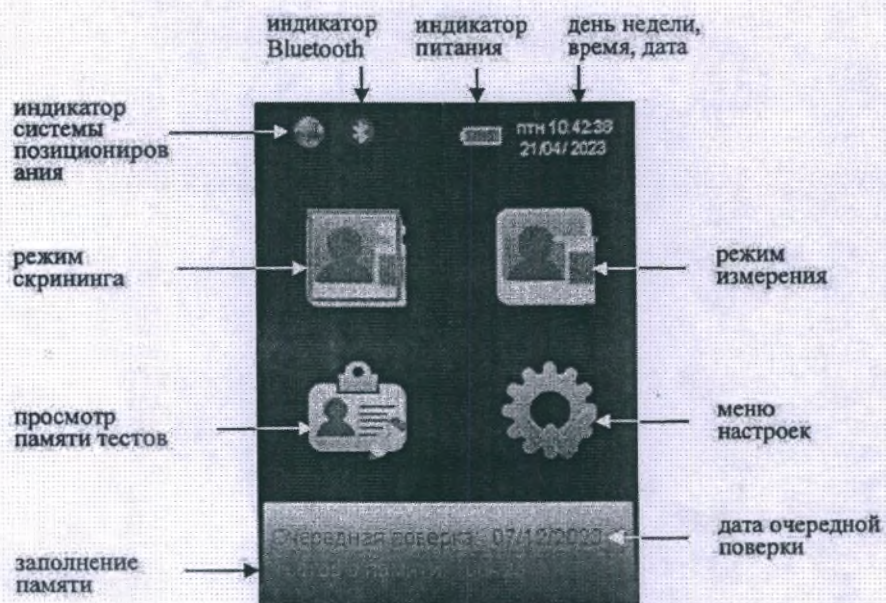

Figure 5 – Main menu of the analyzer
2.2.1 The analyzer is turned on by pressing the button on/off, holding it until the sound signal (about 3 seconds). In this case, a splash screen appears on the screen with the abbreviated designation of the analyzer and the software version number, autotesting is carried out, after which the main menu of the analyzer appears on the screen (Figure 5).
2.3.1 The main menu of the analyzer consists of 4 icons and indicators informing about the supply voltage level, current time and date, establishing the coordinates of the current location by the positioning system receiver, connecting to a thermal printer (or external device) via Bluetooth, and the date of the next verification is also displayed in the main menu and information about memory capacity (Figure 5).
2.5.2 To enter the settings menu in the main menu of the analyzer (Figure 5), select the icon item . The "SETTINGS" menu will appear on the touch screen, consisting of three items intended to go to the corresponding menus (Figure 6).